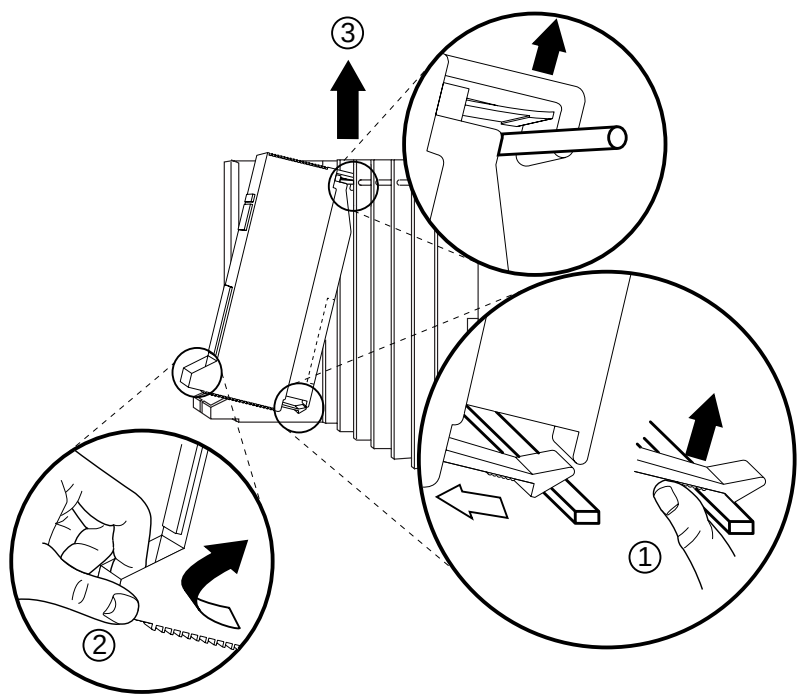

Figure 9-3. Removing a Module from the Carrier
If you are installing an expansion carrier, remove the rightmost module from the control unit and set it aside. See Figure 9-3 on page 9-11.
- **5. Replace the processor module.** See Figure 9-3 on page 9-11. Then go to Step 7.
- ▶ **2. Remove the power supply module to access the housing clips on the leftmost side of the carrier. See Figure 9-3 on page 9-11.**
- ▶ 3. Remove the processor module from the carrier. See Figure 9-3.